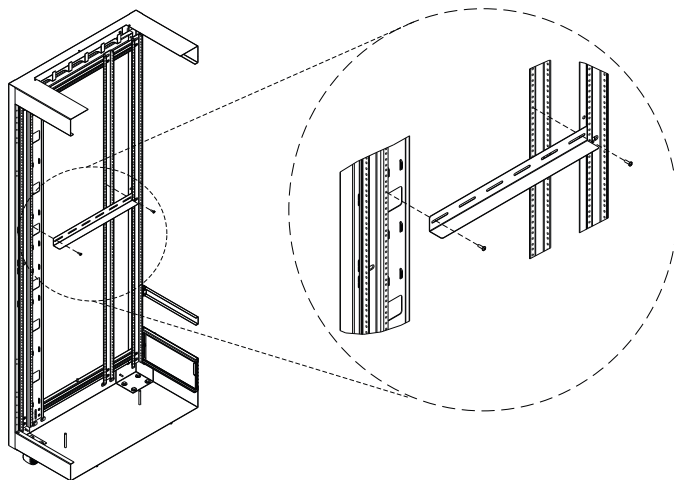

Fig. 3-2: Install the support brackets to the side of the rack to provide rear support for the rackmount shelf
1. In the desired rack location, screw the support brackets to the rack internal rails as shown in Fig. 3-2. The kit includes four #10-32 UNF screws of 12.7 mm (0.5") length.